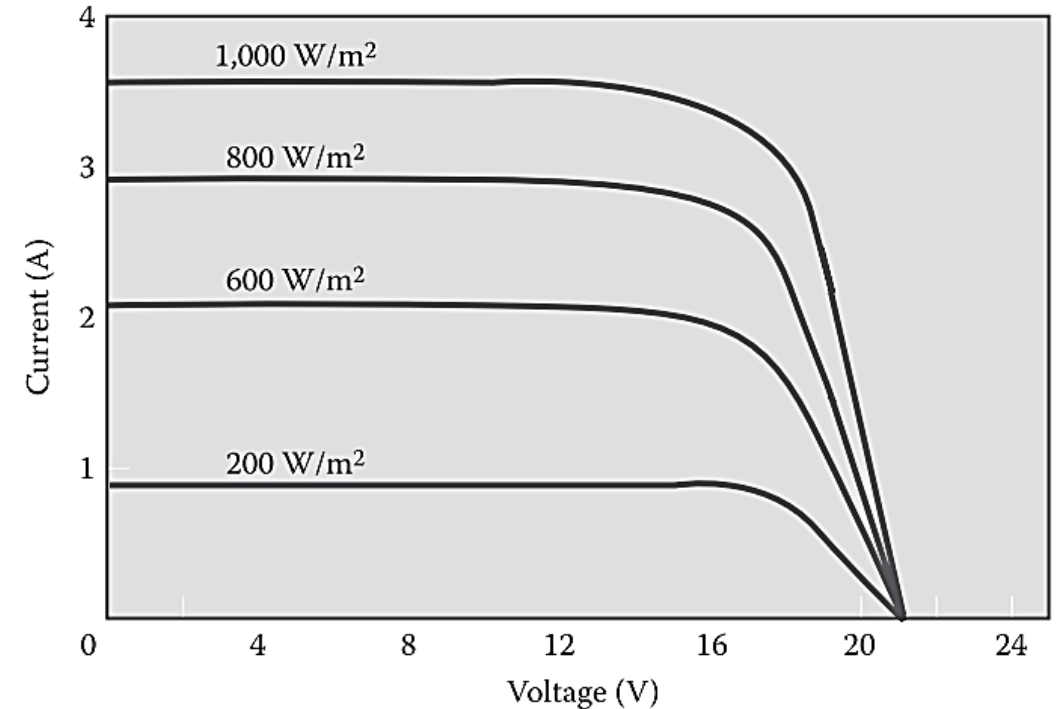

FIGURE 6.2 PV module current diminishes with decreasing solar irradiance.
- **Figure 6.2** : I-V curve at different irradiance levels. The lower the solar irradiance is, the lower is the current output and thus the lower is the peak power point. The amount of current produced is directly proportional to increases in solar radiation intensity.
- **Figure 6.2** : Voltage essentially remains constant. Basically, V_{oc} does not change; its behavior is essentially constant even as solar irradiance intensity is changing.